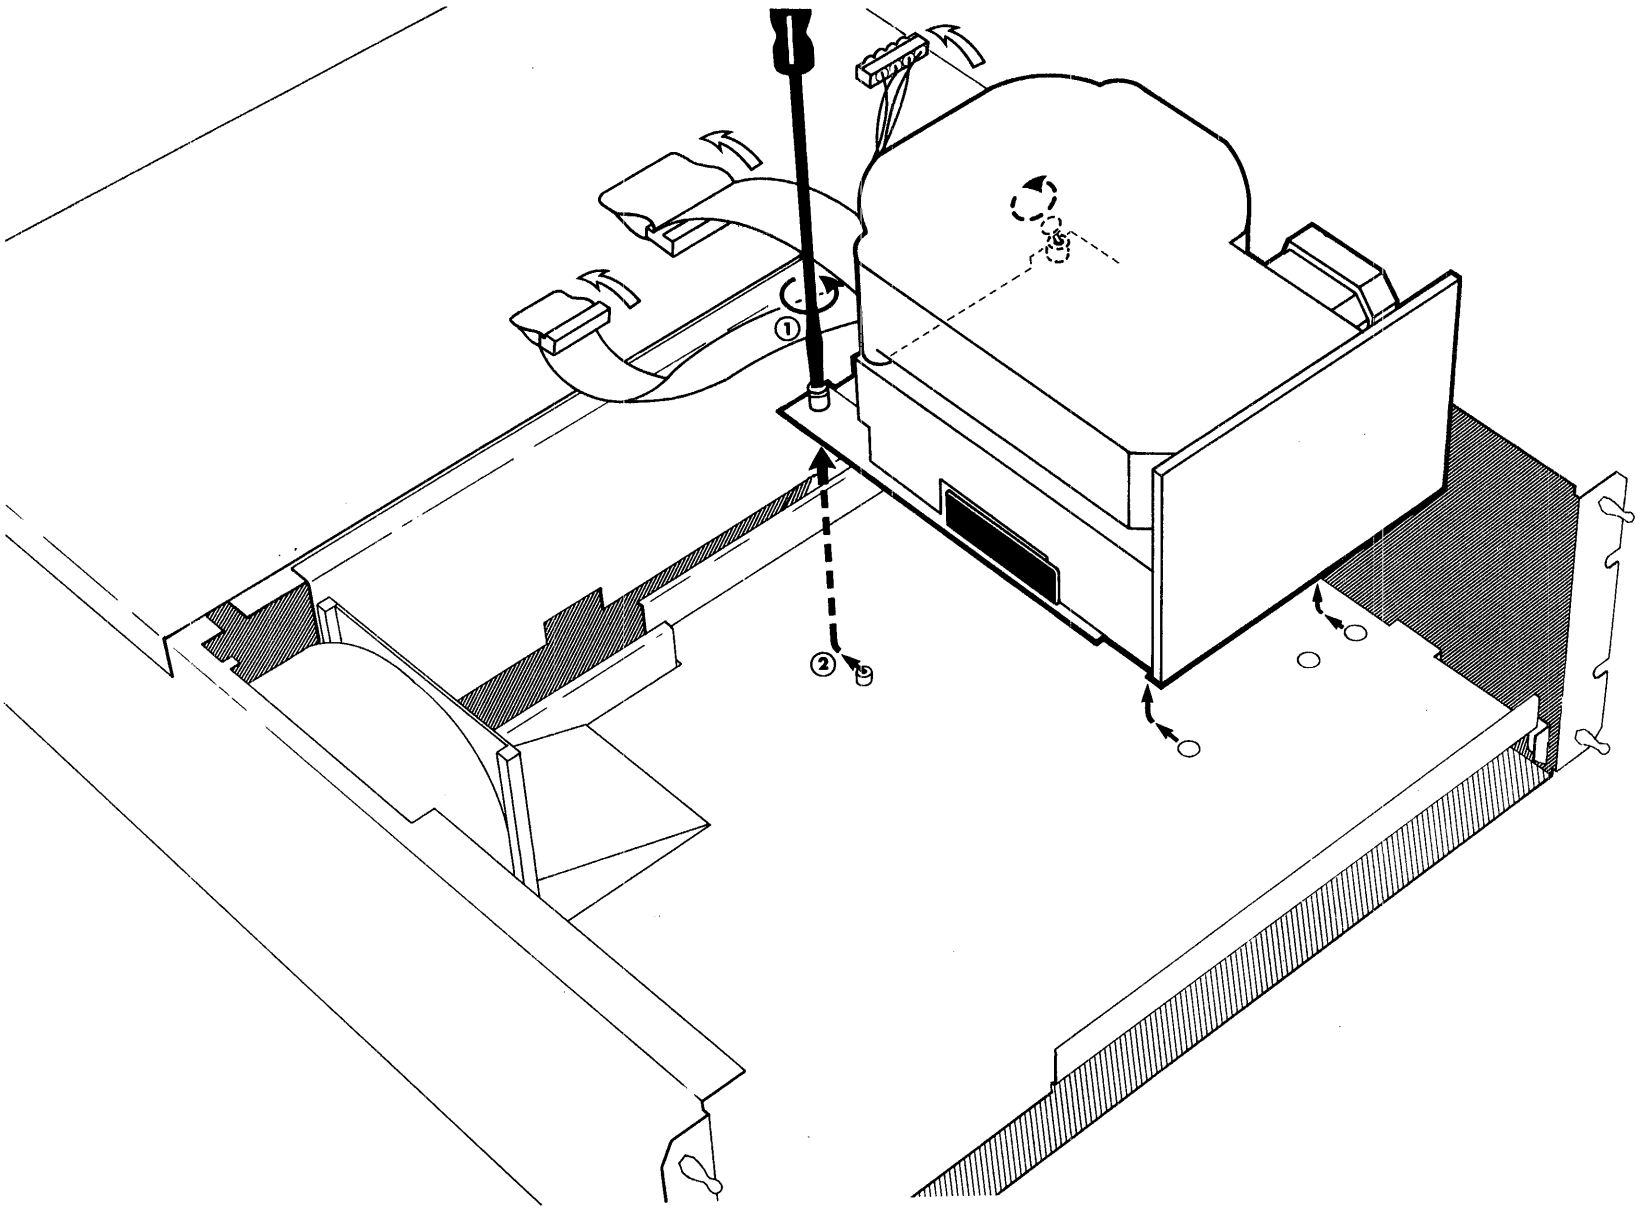

Fig. 10-11 Removal of single Winchester drive
13. SINGLE WINCHESTER DRIVE. Disconnect the drive's power connector from the backplane and its signal cables from the foundation module. As shown in Figure 10-11, release the two captive screws that attach the plate on which the drive is mounted, and push the drive toward the rear of the cabinet. The drive can now be lifted up and removed.